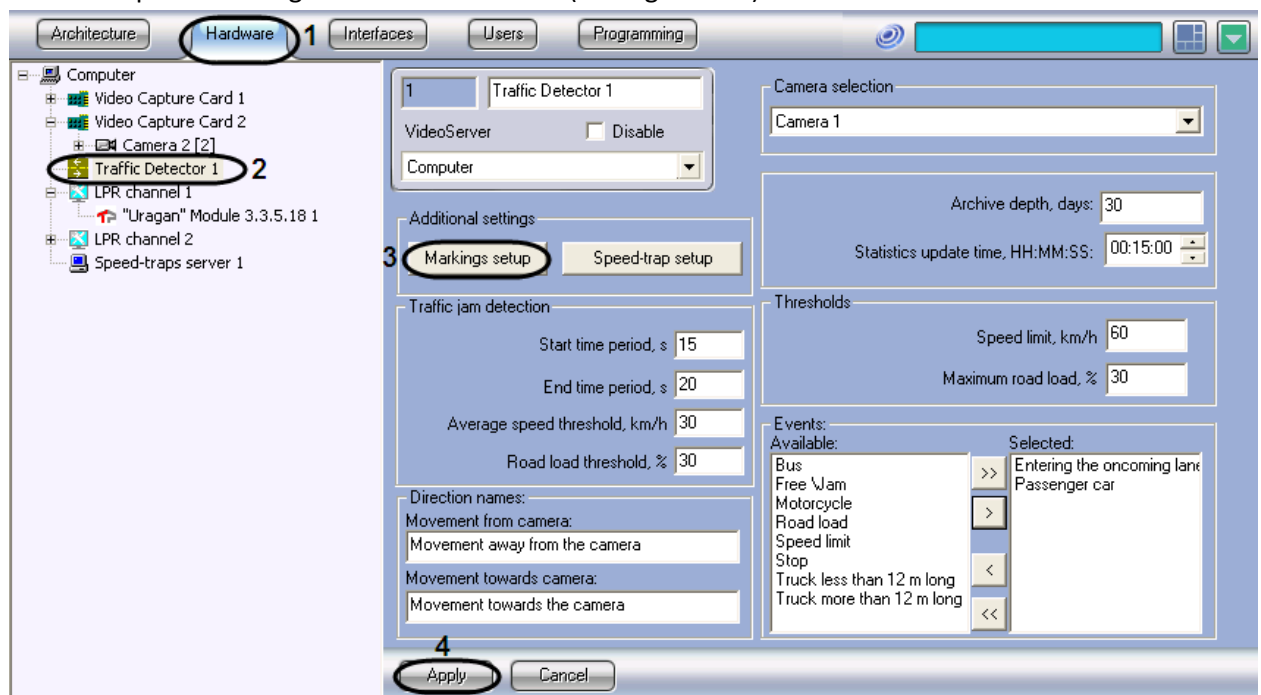

Fig. 7.4—4 Opening the markings setup window
2. In the object tree on the left side of the Hardware tab, select the Traffic Detection object representing the Traffic Detector module to be set up. The settings panel of the selected object will open on the right side of the window (see Fig. 7.4—4).